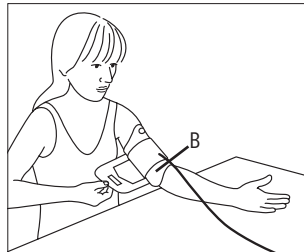

Fig. 2
- The opening B (see Fig. 2) on the cuff, opposite the grip tab, should lie on the inner elbow. The tube should lie in the middle of the inner elbow and point towards the hand.